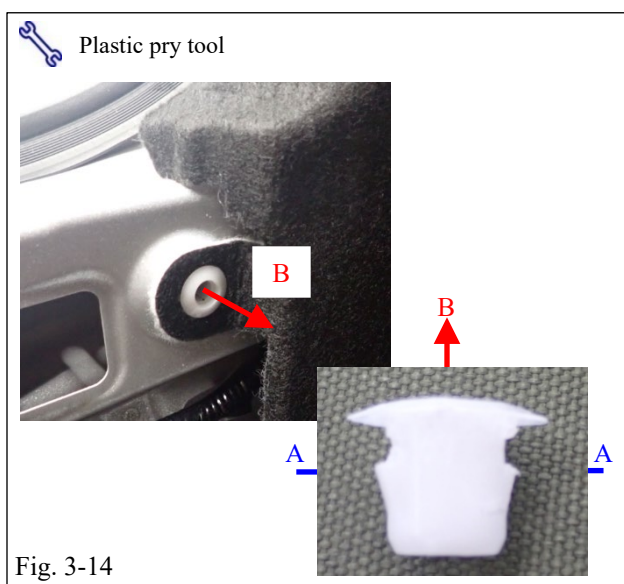

Fig. 3-14
- (l) Remove the clip attaching the LH quarter trim panel to the vehicle body near the LH trunk opening using a nylon panel removal tool (push: A and pull: B) and retain for reassembly (Fig. 3-14).